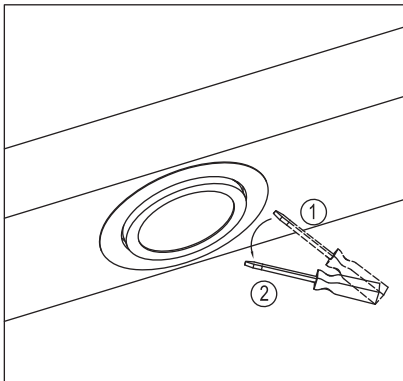

Fig 1
1. Remove the lit lens using a flat head screwdriver. (Fig 1)